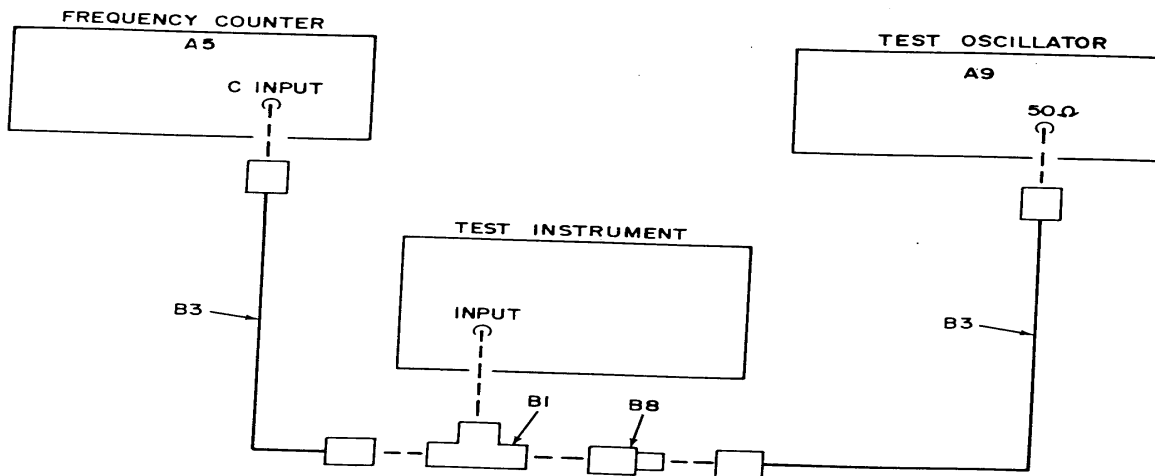

Figure 2. Bandwidth-equipment setup.
- (1) Connect equipment as shown in figure 2.
- (2) Set input selector switch to CRYSTAL and GAIN control one-quarter turn from fully counterclockwise position.